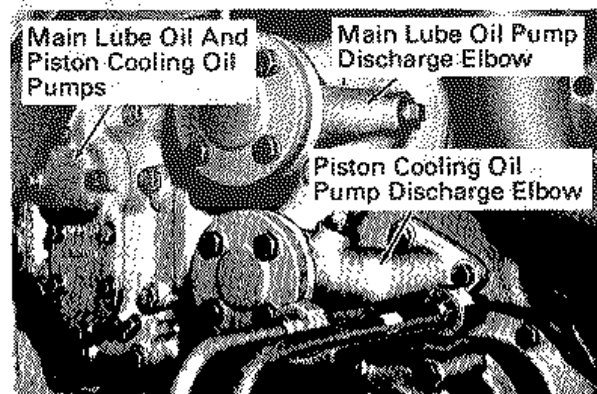

Fig. B-5 - Main Lube Oil and Piston Cooling Oil Pump Discharge Elbows
1. Remove the pipe plug at the main lube oil pump discharge elbow, Fig. B-5, and connect an external source of clean, warm oil at the discharge elbow. Prelubricate engine at a minimum of 69 kPa (10 psi) for a period of not less than 3 and not more than 5 minutes (approximately 57 1pm [15 gpm] using a 1.1 to 1.5 kW [1-1/2 to 2 hp] motor).
3. On new or overhauled engines remove the pipe plug at the piston cooling oil pump discharge elbow, Fig. B-5, and connect an external source of clean, warm oil at the discharge elbow. Check for unrestricted flow of oil at each piston cooling tube.